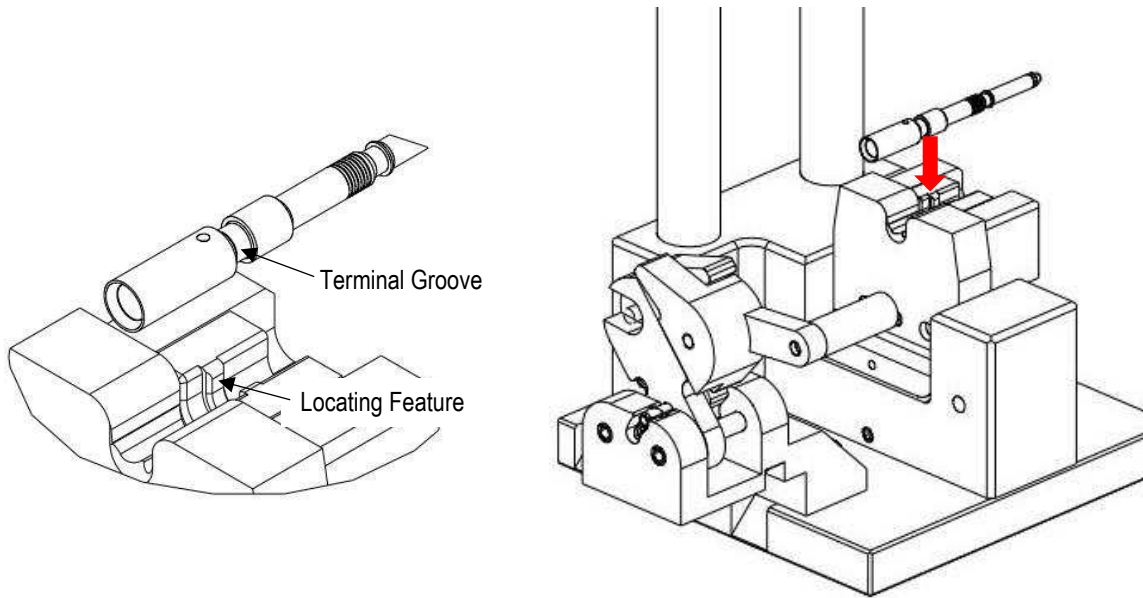

Figure 3
1. Align the Terminal Groove with the Locating Feature in the die (reference Figure 3).